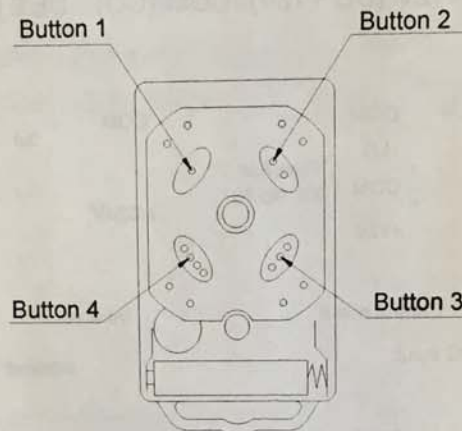

Fig.8 Remote control
- Remote control:** The remote control works in a single channel mode. It has four buttons. See Fig.8 Remote control. The function of button 1, button 2 and button 3 are the same. With each press of the remote control button, which has been programmed, the gate will close, stop, open or stop cycle. Button 4 is available to set pedestrian mode. You can program/learn button 1, button 2, button 3 individually. You also can program/learn two buttons or three buttons together, but you need repeat the program/learn process if you want to use more than one button.